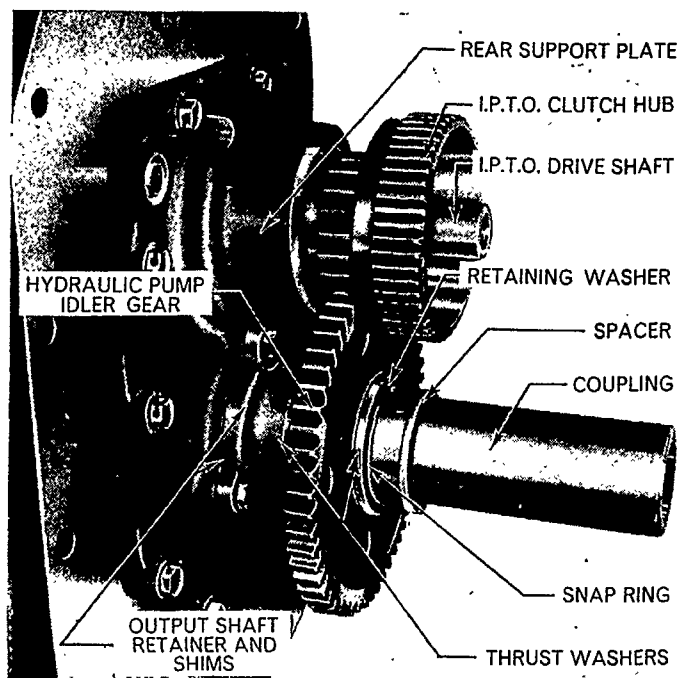

Figure 64
2. Remove the snap ring, the hydraulic pump idler gear, the retaining washer, and the two thrust washers, located on the output shaft retainer, Figure 64.
6. Remove the four self-locking bolts retaining the output shaft retainer, Figure 64, and withdraw the retainer and shims from the rear support plate.
7. Install the hydraulic pump idler gear and the two thrust washers to the output shaft retainer assembly, and secure with the retaining washer and snap ring, Figure 64.